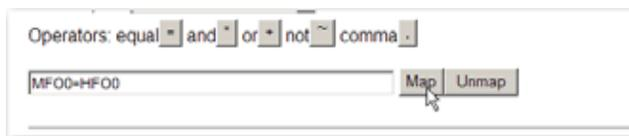

FIG. 240 DESTINATION AND SOURCE APPEAR IN MAP FIELD
- Click on the Select button. The Destination and Source appear in the Map: text field. (MFO0=HFO0) (See Fig. 240)
- Click on the Map button. To recap we mapped the Float Variable O, word 0 to Modbus Float Out, Word 0). (See Fig. 240)